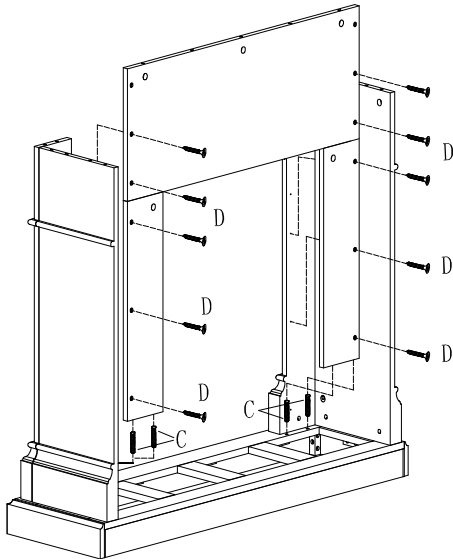

Figure 4
AFTER FINISHED FIGURE 4, INSET (A) CAM BOLT & (C) WOOD DOWEL INTO THE RELATED HOLES,THEN INSERT (B) CAM LOCK TO CONNECT (1) TOP PANEL.